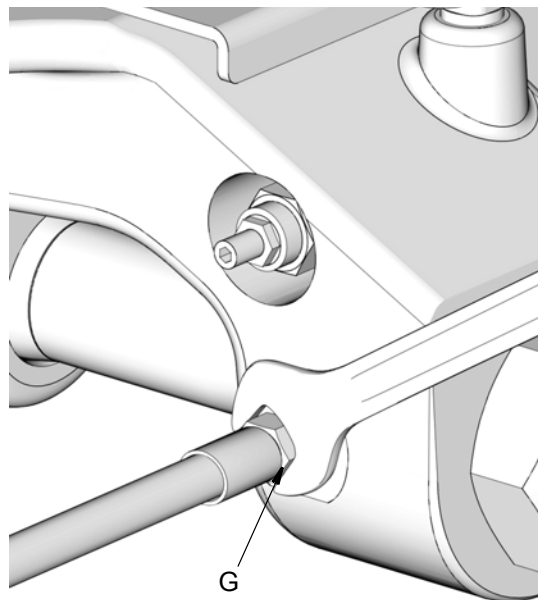

FIG. 10
2. To relieve pressure in the system use a wrench to **slowly loosen** the lubrication line fitting (G) until no lubricant or air is leaking out of the fitting (FIG. 10).